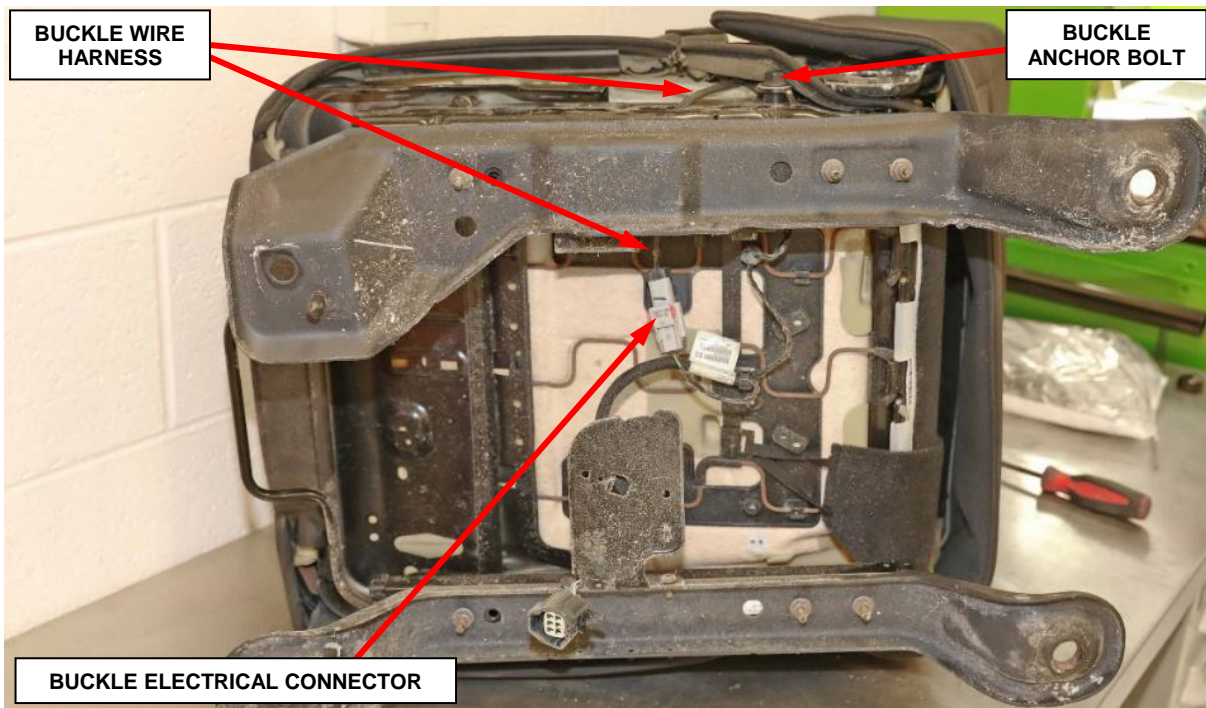

Figure 9 – Seat Belt Buckle Pigtail Wire Connector
- 11. Pull the inboard side of the lower seat cushion trim cover upward far enough to access the seat belt buckle anchor bolt (Figure 9).
- 12. Reach under the seat cushion frame to access and disconnect the seat belt buckle pigtail wire connector from the seat wire harness (Figure 9).
21. Connect the seat belt buckle pigtail wire connector to the seat wire harness under the seat cushion frame (Figure 9).